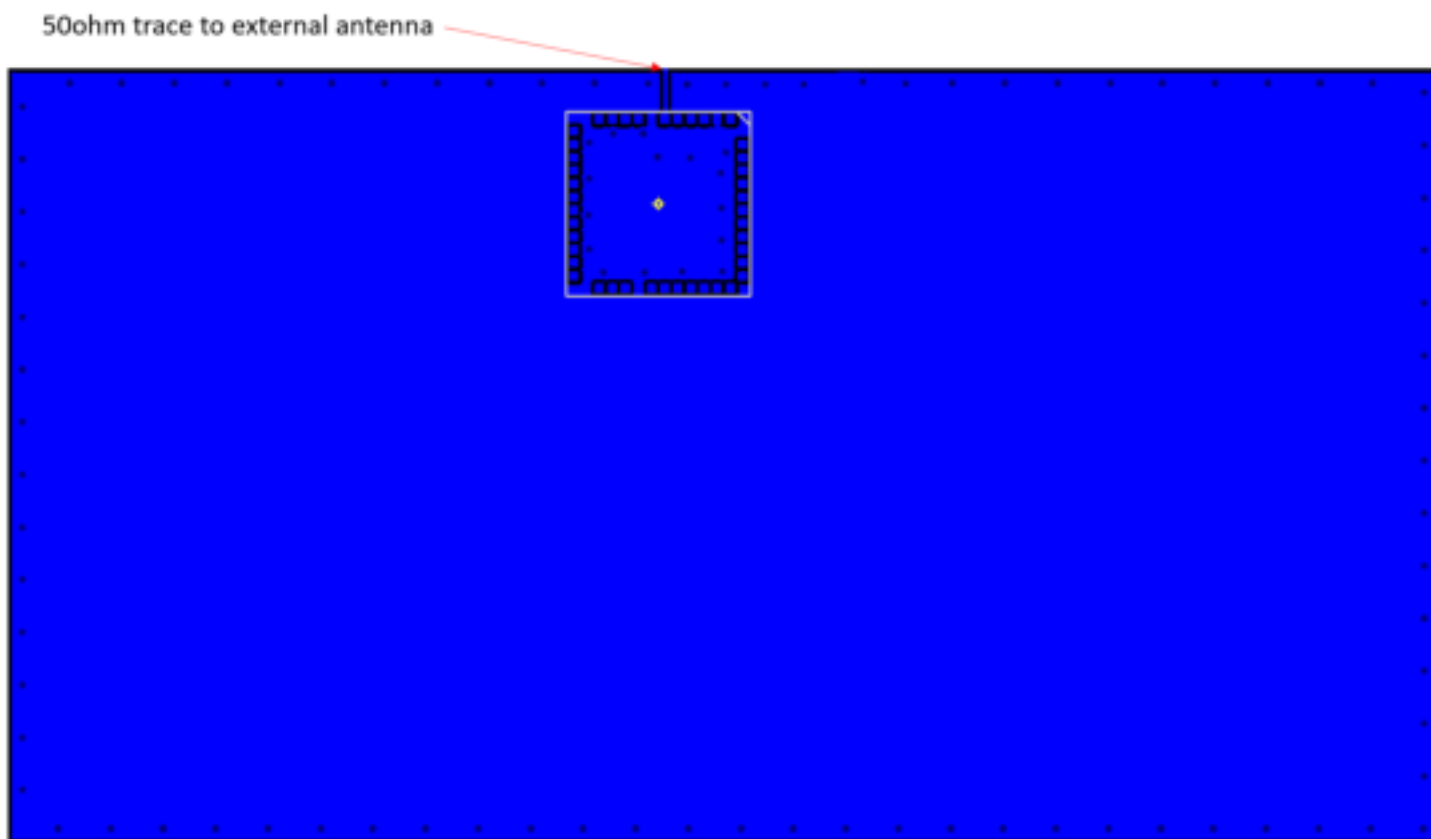

Figure 7.4. Recommended Layout for BGM241S (External Antenna)
- With an external antenna, use a 50Ω trace to connect RF signal to the antenna, as it is illustrated in Figure 7.4 Recommended Layout for BGM241S \(External Antenna\) on page 39